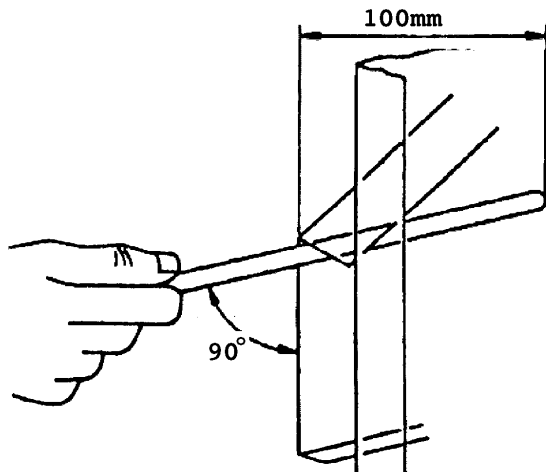

Fig. 17 Spillage Test
13.3 After the appliance has been alight for five minutes test with a lighted smoke match inserted in the special tube supplied. Insert the tube horizontally at the left side along the rear edge of the downdraught diverter up to the mark on the tube (100mm from the end) - see figure 17.